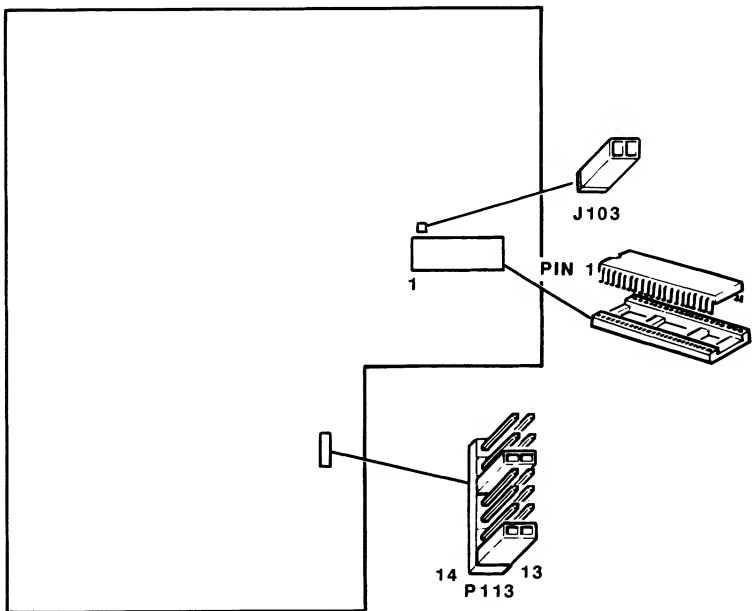

Figure 5-4. Installing the 80287 Numeric Processor
3. Refer to Figure 5-4. Align pin 1 of the IC with pin 1 of U128 on the main circuit board and insert the IC into the socket.